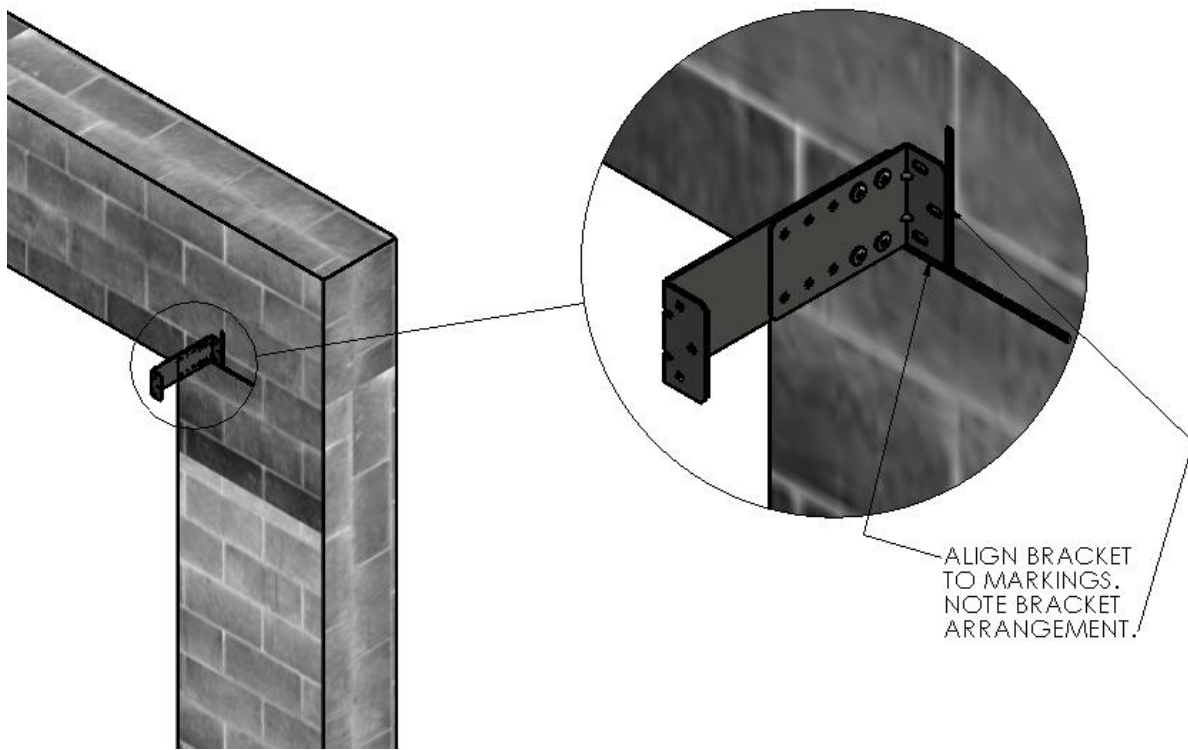

Figure 6 LOCATE/INSTALL HEADER PROJECTION MOUNTING BRACKET
1. With the slotted end of the Header Mounting Projection Bracket against the Mounting Surface, align the top surface of the Header Mounting Bracket with the Horizontal line on the Mounting Surface, and align the outer edge of the Header Mounting Bracket with the Vertical line on the mounting surface. (Figure 6 LOCATE/INSTALL HEADER PROJECTION MOUNTING BRACKET)
3. Predrill through the centers of the traced locations for the mounting hardware, three (3) pilot holes on each side. Using adequate mounting screws or bolts (appropriate for your building/surface material) attach the header Projection brackets to each side of the opening. (Figure 6 LOCATE/INSTALL HEADER PROJECTION MOUNTING BRACKET)